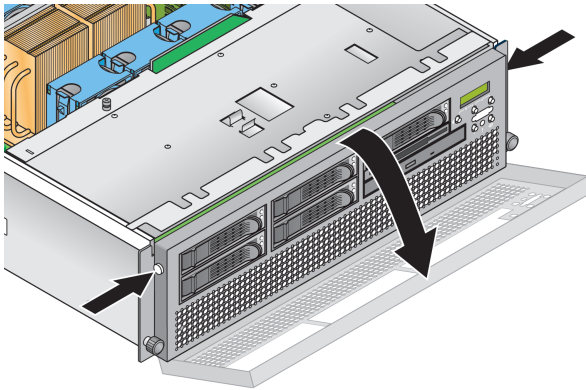

FIGURE 1-14 Removing the Front Bezel
- d. Remove the front bezel from the server by pressing in on the rubberized buttons on each side of the bezel, then swinging the bezel top downward (see FIGURE 1-14).